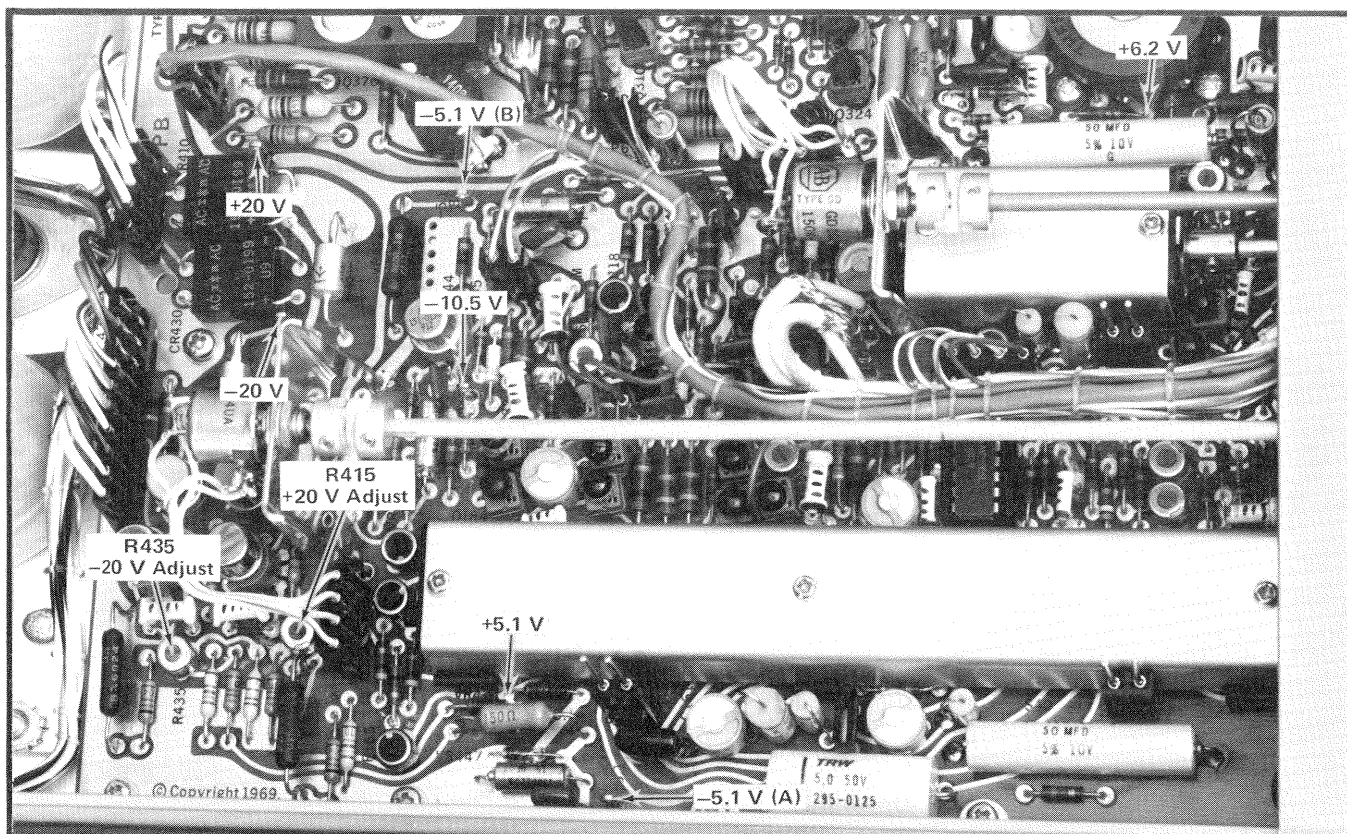

Fig. 5-2. Regulated power supply voltage adjustments and test points.
c. Connect the DC voltmeter between the +20-volt test point and chassis ground. See Fig. 5-2.
d. ADJUST—+20-volt adjust R415, (Fig. 5-2) for +20 volts ± 0.2 -volt.
b. Connect the DC voltmeter between the -20-volt test terminal and chassis ground (Fig. 5-2).
c. ADJUST—20 volts adjust R435, (Fig. 5-2) for -20 volts ± 0.2 -volt.
a. Connect the DC voltmeter between the -10.5 Volt test point and chassis ground (Fig. 5-2).
c. Connect the DC voltmeter between the -5.1 (A) volt test point and chassis ground. (See Fig. 5-2).
e. Connect the DC voltmeter between the -5.1 (B) volt test point and chassis ground. (See Fig. 5-2).
i. Connect the voltmeter between the +6.2 Volt test point and chassis ground. (See Fig. 5-2).
b. Trigger the test oscilloscope in line frequency. Connect a 1 \times probe to the power supply test points that are listed in Table 5-1 and shown in Fig. 5-2.